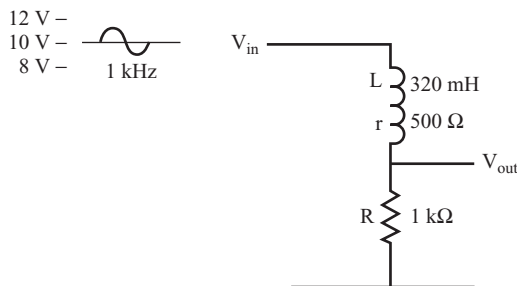

FIGURE 6.45
**31** For the circuit shown in Figure 6.45, the DC resistance of the inductor is large enough that you should include that value in your calculations.
For the circuit shown in Figure 6.45, calculate the DC and AC output voltages, using the steps listed in problem 30.